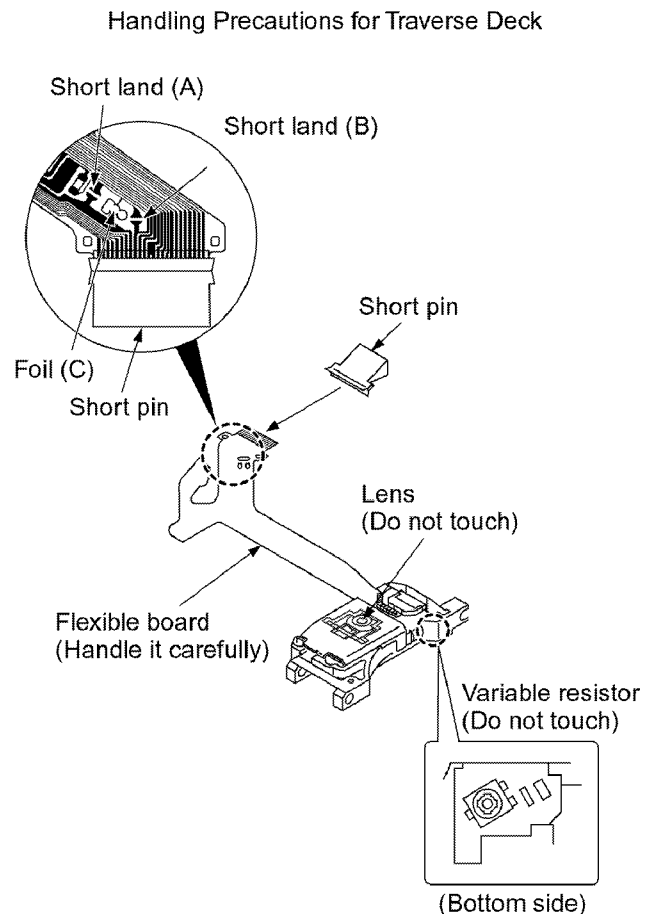

Fig. 1
2. To protect the laser diode against electrostatic breakdown, be sure that the short land A and B of the flexible board (FFC board) should be short-circuit by solder before pulling out the FFC. Then inserting a short pin or similar object into the tip of the flexible board. (Refer to **Fig. 1** )
4. Do not turn the pre-set variable resistor (for adjustment of the laser power); it has been adjusted at the factory. (as shown in **Fig. 1** )
2. Cut the foil (C). (Refer to **Fig. 1** ) (Take care not to make contact with cutting point each other.)
3. Unsolder the short lands. (Refer to **Fig. 1** )